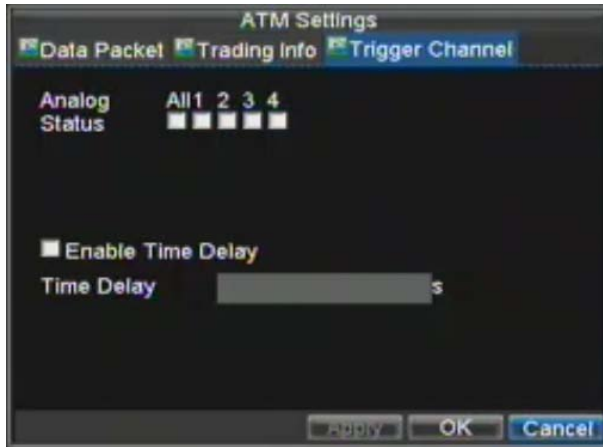

Figure 7. Trigger Channel Menu
9. Trigger Channel settings: Select the channel for message overlay and record triggering, and time delay for recording if required. After completion of settings, click **OK** to return to the ATM Settings menu shown as Figure 7 below.